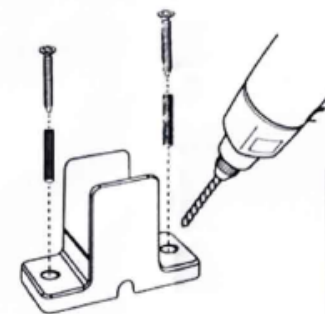

Fig 2
3. Installing the expansion tube into the 2 holes, fix them with screw M4\*32 Fig 2.